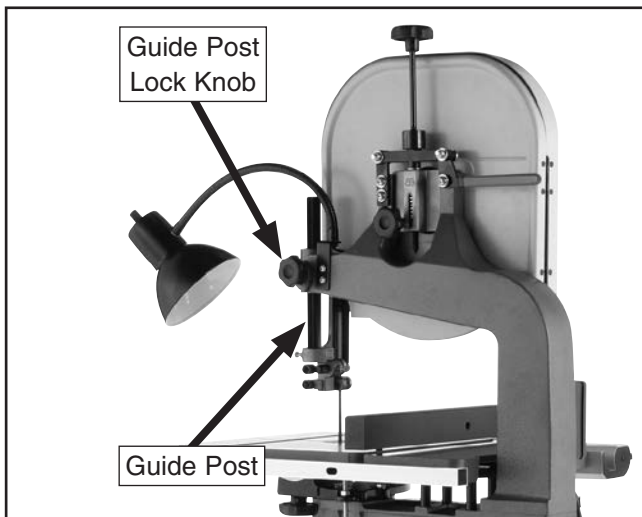

Figure 30. Guide post controls.
The guide post (shown in **Figure 30**) connects the upper blade guide assembly to the bandsaw. The guidepost allows the blade guide assembly to move up or down to be as close to the workpiece as possible. In order to cut accurately and safely, the bottom of the blade guide assembly must be no more than 1" from the workpiece at all times—this positioning provides the greatest support to the blade and minimizes operator exposure to the blade.
2. Loosen the guide post lock knob shown in **Figure 30**.